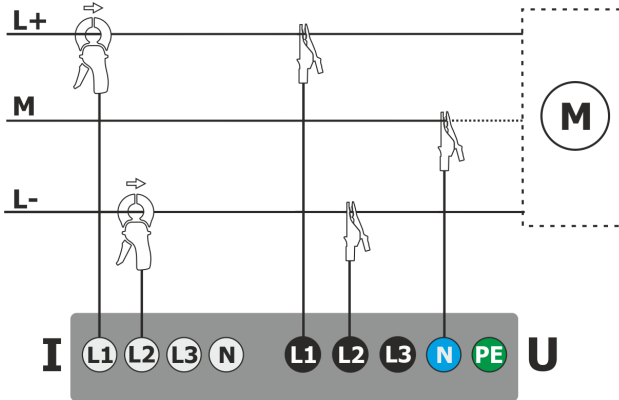

Fig. 66. Wiring diagram – DC+M system (bipolar).
- DC+M – two-voltage DC system with middle point (Fig. 66)